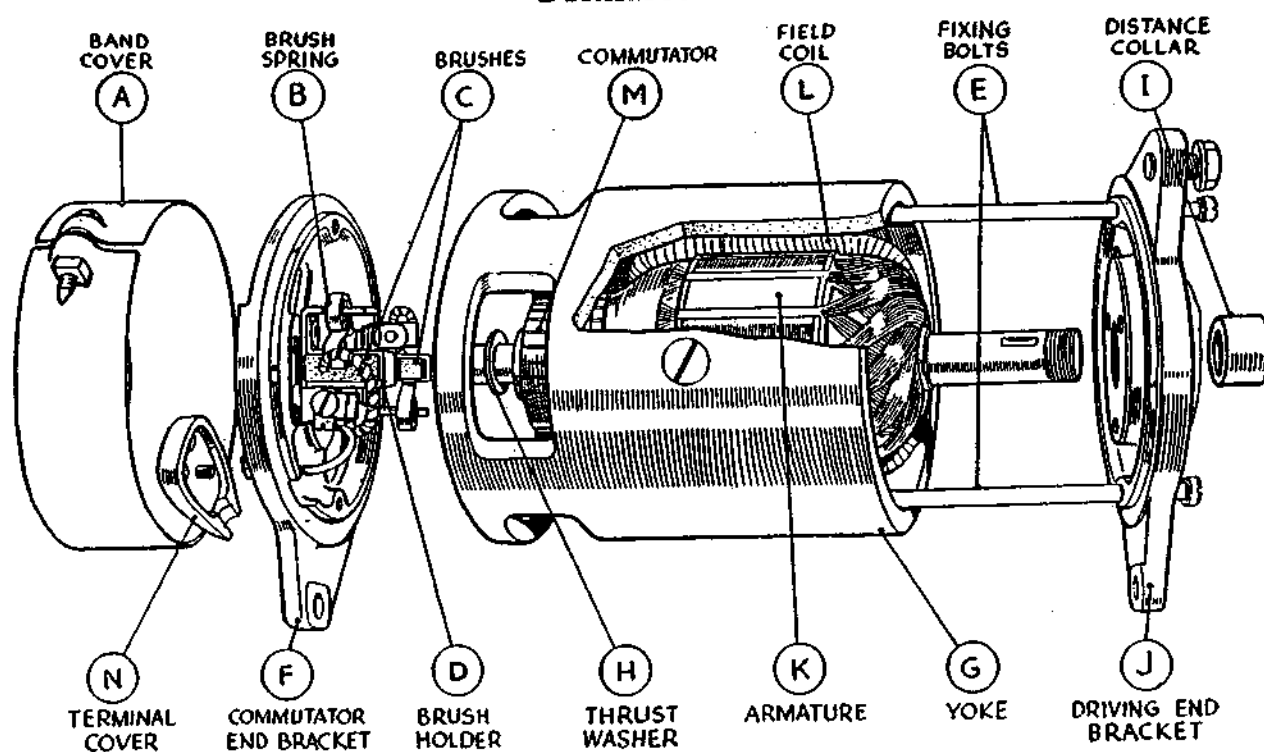

Fig. 14. Exploded and Partly Sectioned View of Dynamo.
- (b) Check that the dynamo and control box are connected correctly. The dynamo terminals are accessible after the removal of the moulded terminal cover shown in Fig. 14 secured to the commutator end cover by a counter-sunk head set screw. The dynamo terminal "D" should be connected to the control board terminal "+D" by a yellow lead and the dynamo terminal "F" connected to control board terminal "F" by a green lead.
- Unsolder the connections to the "D" and "F" terminals on the commutator end bracket and draw the leads out of the terminals. Remove the commutator end bracket "F" from the yoke "G". If it is a tight fit it should be carefully levered off with a screwdriver. When free, slide the end bracket, which is fitted with a porous bronze bearing bush for the armature shaft, sufficiently clear to enable the screw securing the second field coil lead to the brush box terminal to be removed. Remove the thrust washer "H" from the commutator end of the armature shaft and the distance collar "I" from the driving end (see Fig. 14).